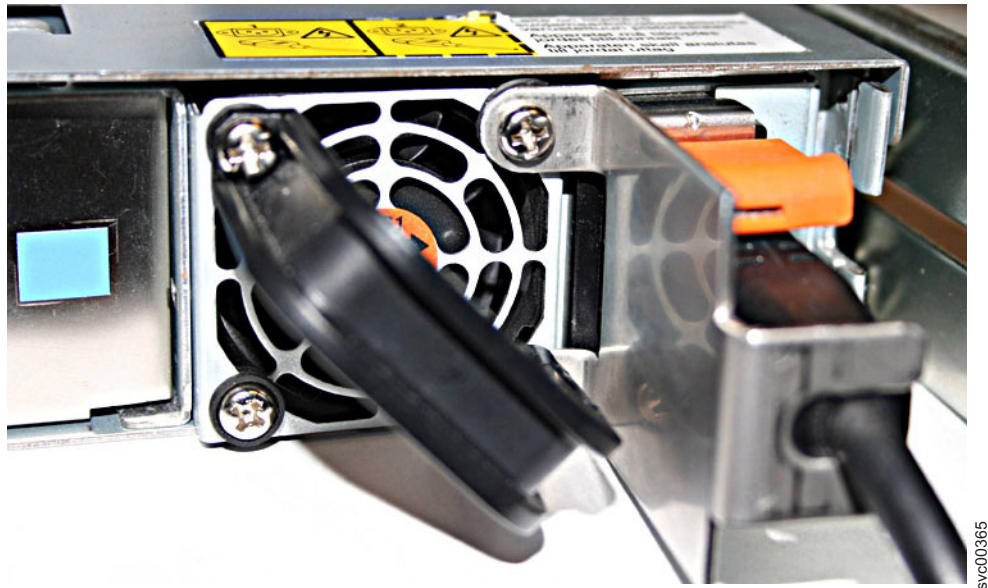

Figure 26. The SAN Volume Controller 2145-8G4 with the cable retention bracket attached
1. With the node powered off and the power cable removed, unscrew and remove the two screws **1** on the right side of the rear plate that covers the power supply fan unit, as shown in Figure 26 on page 30.
3. Position the cable retention bracket so that the power cable runs through the slot in the bracket, as shown in Figure 26. Align the screw holes in the bracket with the holes that are in the rear plate where you removed the two screws.